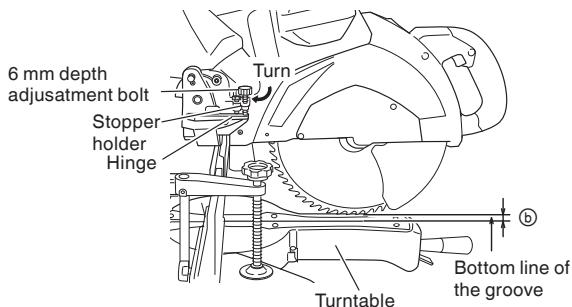

Fig. 47
- (1) Turn the stopper holder on the direction shown in Fig. 47.